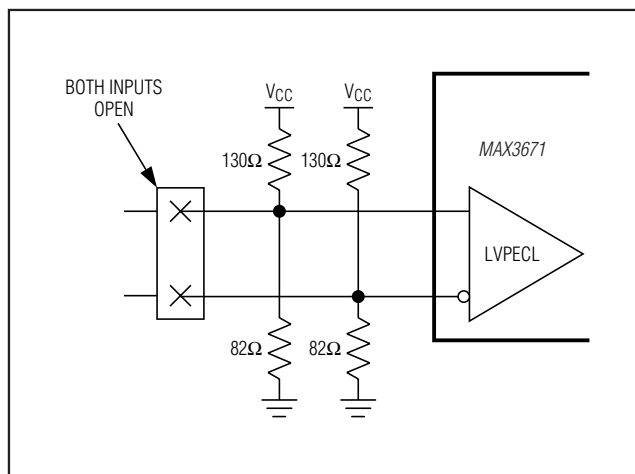

Figure 3. Positions for Open-Circuit Detection
- Both inputs ( $\text{REFCLKx}$ ,  $\overline{\text{REFCLKx}}$ ) are disconnected from the source and have  $130\Omega$  to  $V_{CC}$  and  $82\Omega$  to GND at each input. See Figure 3.